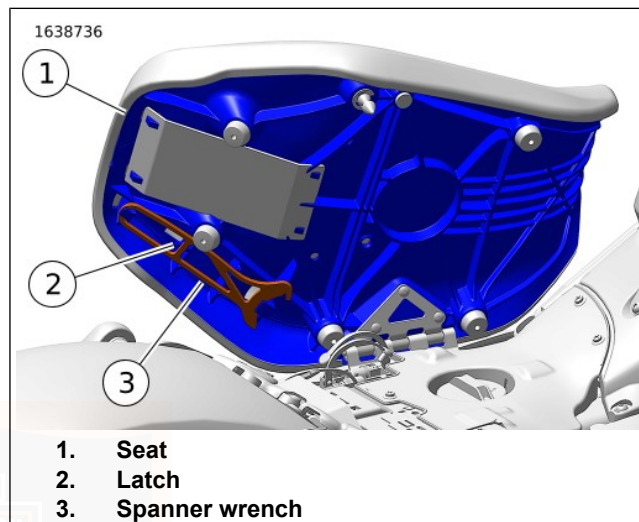

Figure 17. Spanner Wrench Retention Pocket
2. See Figure 17. Lift the latch (2) and slide the spanner wrench (3) from the retention pocket.